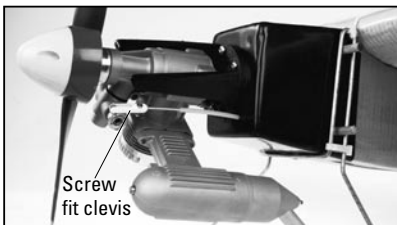

fig. 12
- ▼ 1. Connect "throttle cable inner" to the throttle servo output arm using the screw-fit-clevis (see fig. 12 on page 6).
- ▼ 1. Screw engine mount to the front of the cowling using self-tapping screws. Refer to fig. 12 for position of throttle cable exit and engine mount.
- ▼ 4. Drill a 4mm hole in the cowling for the throttle cable as shown in fig. 12. This should line up with the pre-cut slot in the left fuselage side.
- ▼ 5. Pass the throttle cable and fuel pipes through their relevant holes in the cowling. Slide cowling back until dowel holes line up. Place undercarriage over holes and slide dowels in place locating both the undercarriage and cowl assembly (see fig. 12).
- ▼ 6. Connect throttle cable to engine using the screw-fit-clevis (see fig. 12)